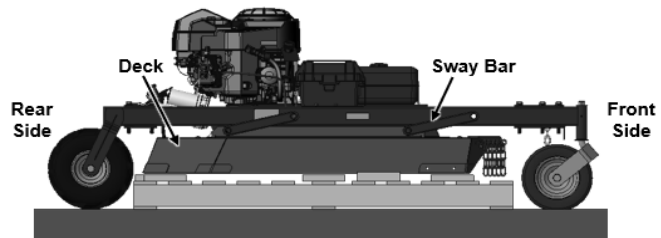

Figure 10
1. Raise the actuators until the Deck lifts off Pallet (*Figure 10*).